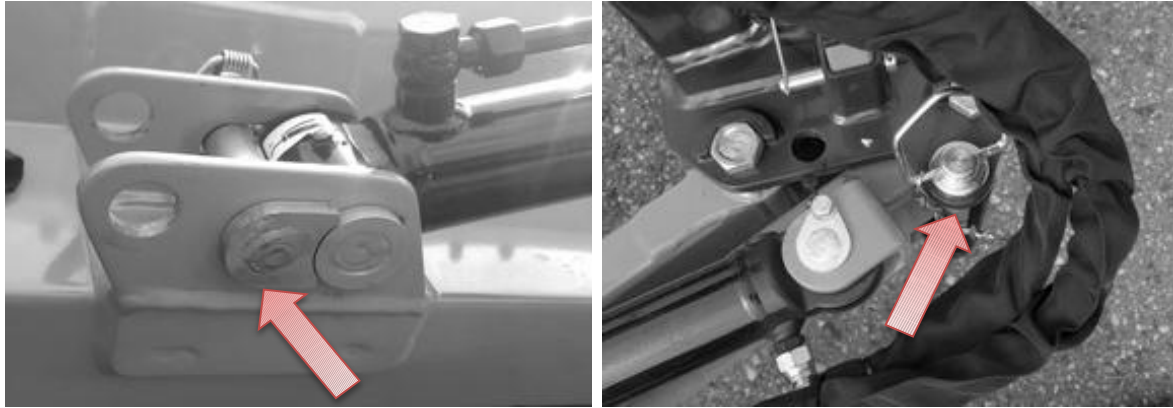

Figure 8. Transport pins
- The next step is to secure the arms and cylinders with transport pins by repositioning them in the locations indicated in Figure 8. Location similar to Figure 6.